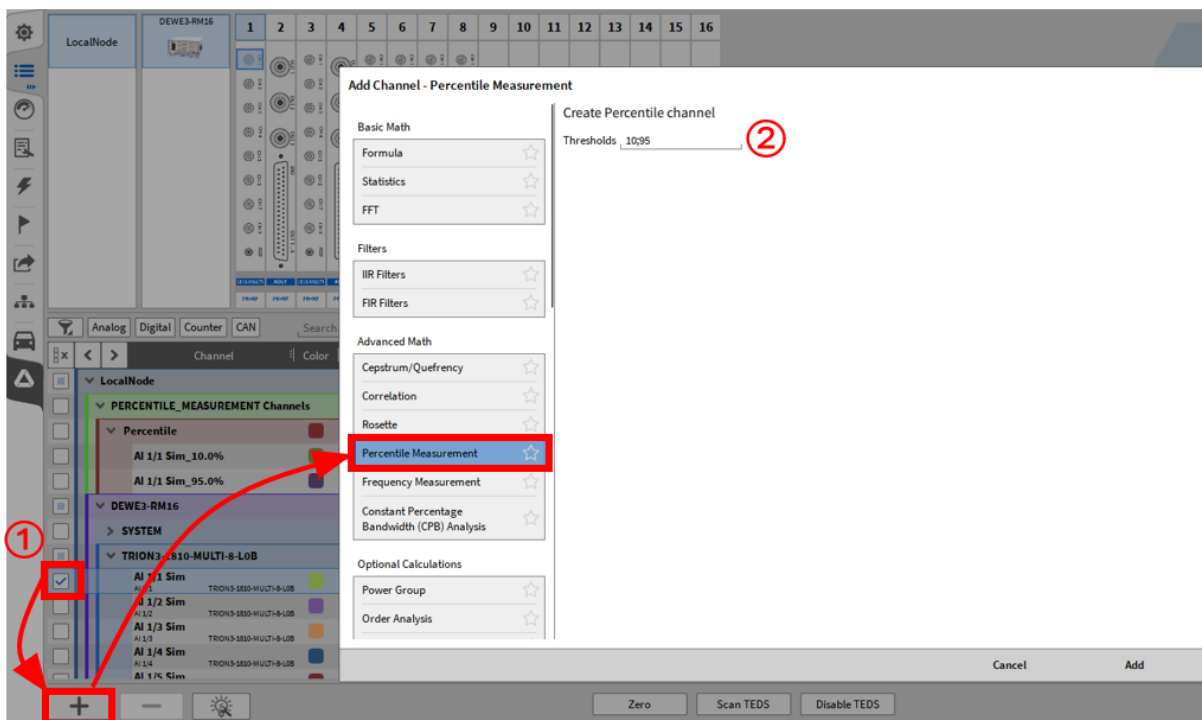
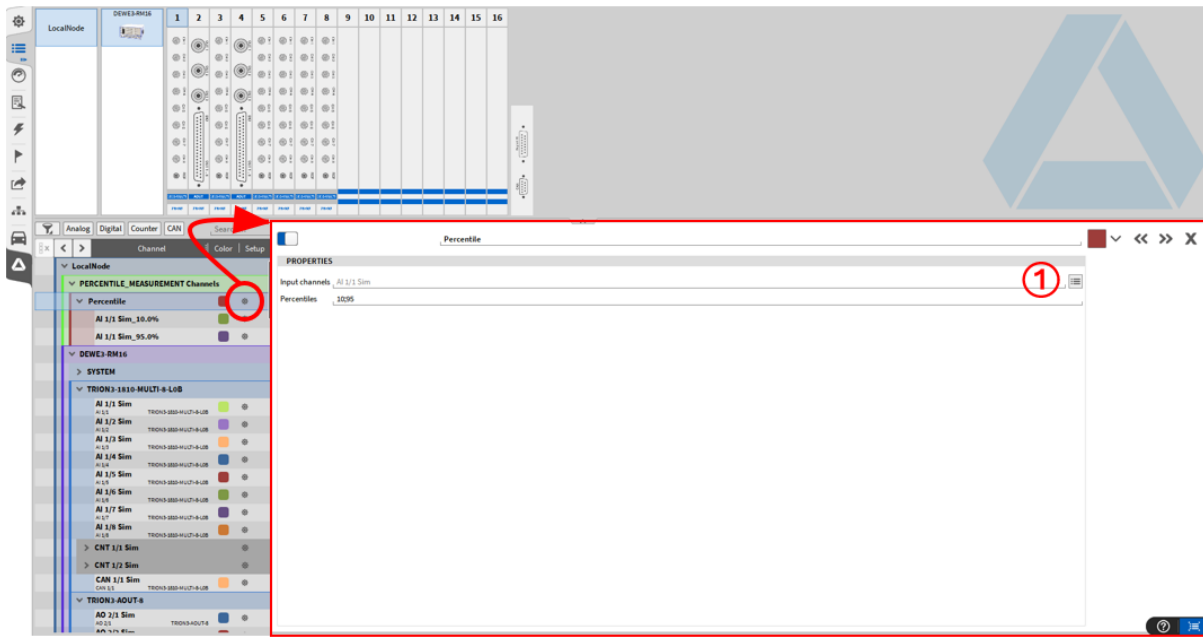

Fig. 7.120: Add a percentile measurement
Fig. 7.121: Subsequent changes to the percentile measurement
To create one or more channels for a percentile measurement, click on the + button in the bottom left corner of the channel list. A pop-up window appears in which the percentile measurement must be selected in the list (see Fig. 7.120). One or more channels must be selected in the channel list before clicking on the + button (see ① in Fig. 7.120). It is also possible to add channels for the measurement afterwards (see ① Fig. 7.121). You can specify 1 or more threshold values in %. When selecting multiple threshold values, the individual values must be separated by “;” (see ② in Fig. 7.120).
After clicking the Add button, a new section appears in the channel list called PERCENTILE MEASUREMENT Channels. To change the settings afterwards or to add channels or thresholds, click on the small cogwheel (see Fig. 7.121).